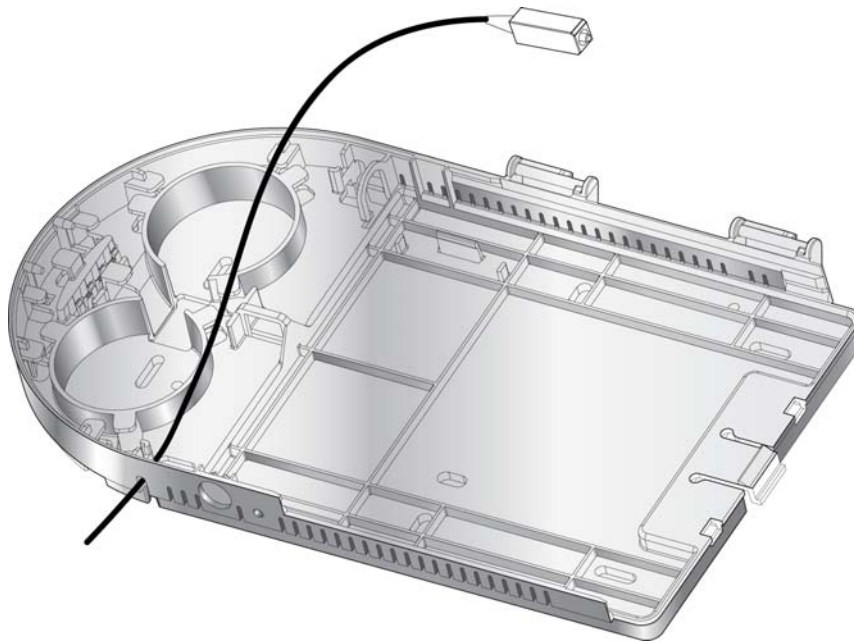

Figure 3: Fiber threaded into the unit from the bottom entry point.
- I. Thread the fiber into the base from the desired point-of-entry and secure the fiber to the base with a cable tie. Leave a minimum of 590-600mm of the fiber to wrap it around the fiber reel in the base. (Figure 3)